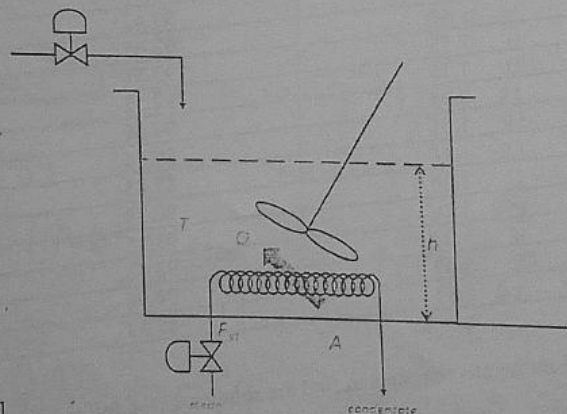

Figure 1
- 1) Consider a perfectly mixed storage tank with non-isothermal conditions as shown in Figure 1 below. The liquid entered the tank with the flowrate F_{in} , density ρ_{in} and temperature T_{in} . It is heated with an external heat supply of temperature T_{st} which is assumed to be constant. The effluent stream is of flowrate F_{out} , density ρ_{out} and temperature T_{out} . Develop a mathematical model for the variation of both liquid level and temperature.